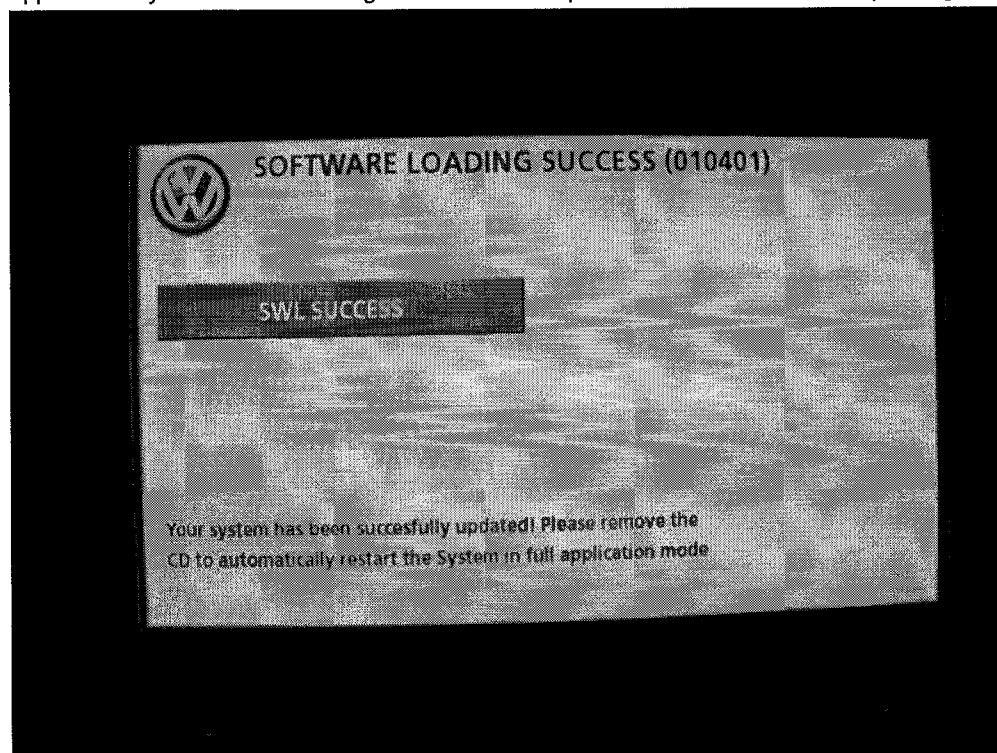

Figure 30
6. Once complete the CD will automatically be ejected and the "SWL SUCCESS" message will appear (see Figure 30)